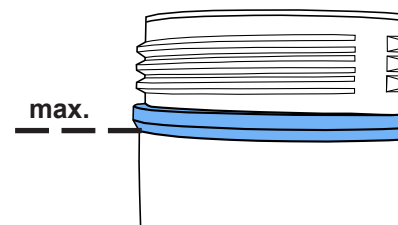

Fig. 7
- ⇒ Ventilate the blasting tank completely by pressing the ventilation valve (5).
- ⇒ Unscrew the tank lid (4). (If it is not possible to loosen the lid, there is still pressure within the blasting tank >>> Press the ventilation valve again!)
- ⇒ Add abrasive up to the maximum fill level (Fig. 7) (the point where the tank jacket thickens just below the thread).